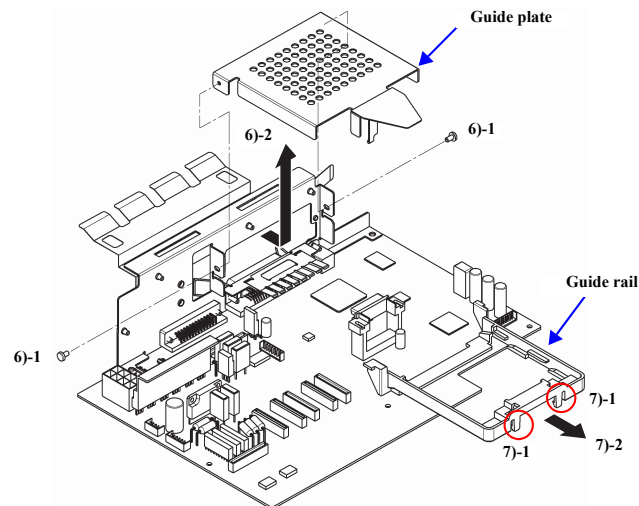

Figure 4-11. ROM BOARD Removal (2)
7. Release the two tabs that secure the Guide rail to the ROM BOARD, and remove the Guide rail in the direction of the arrow in Figure 4-11.